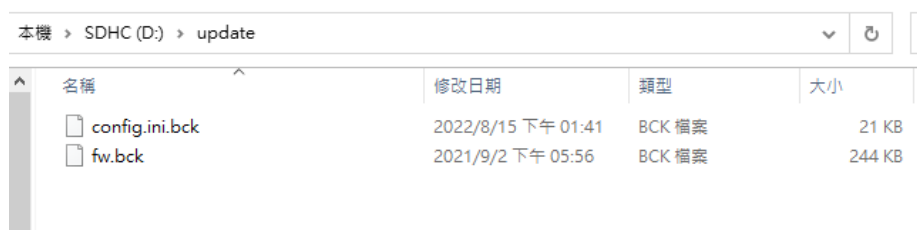

Figure 11.1.9
4. When updating, the firmware and configuration files in the device will be backed up into SD card with the extension **.bck**, as shown in Figure 11.1.9.